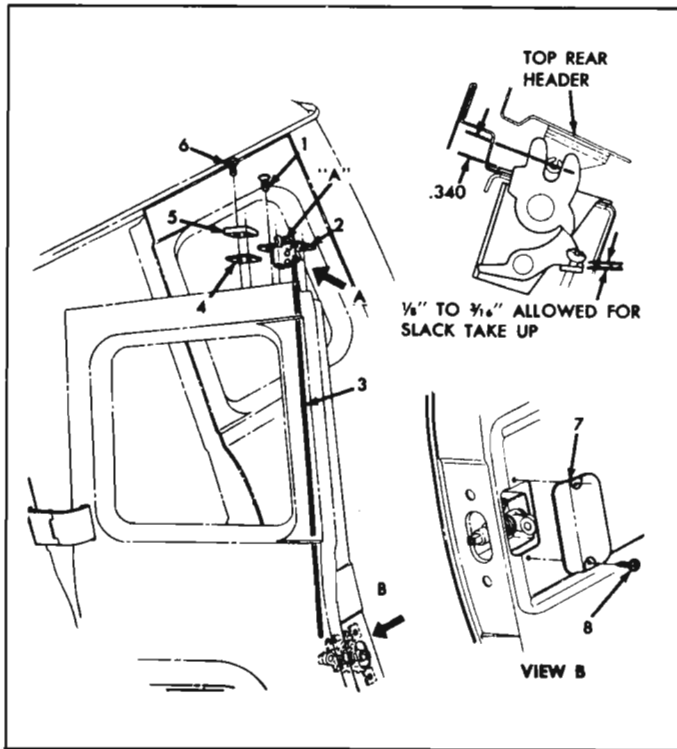

Fig. 10-80a—Rear Door Upper Lock Assembly
Lock rods extend from the lock which is supported in a bracket welded within the door at one end and supported on the other end with an outer plate (fig. 10-80a).
The lock rods are adjustable to allow for wear in the upper and lower catches (2, figs. 10-80a and 10-81a).
1. Remove cover plate (7, fig. 10-80a).
3. At point ("A", figs. 10-80a and 10-81a), remove the upper and lower lock control rods with a screwdriver.
4. Remove retaining screws from top lock assembly ("A", fig. 10-80a) and remove top lock assembly.
3. Install top and bottom lock assemblies ("A", figs. 10-80a and 10-81a) and install retaining screws.
1. Remove door lock cover (7, fig. 10-80a).
NOTE: Rods are adjusted so that the upper and lower catches will clear the strikers a minimum of 1/8 inch when the door handle is fully opened. Slack allowance is shown in Figures 10-80a and 10-81a, views A and B.